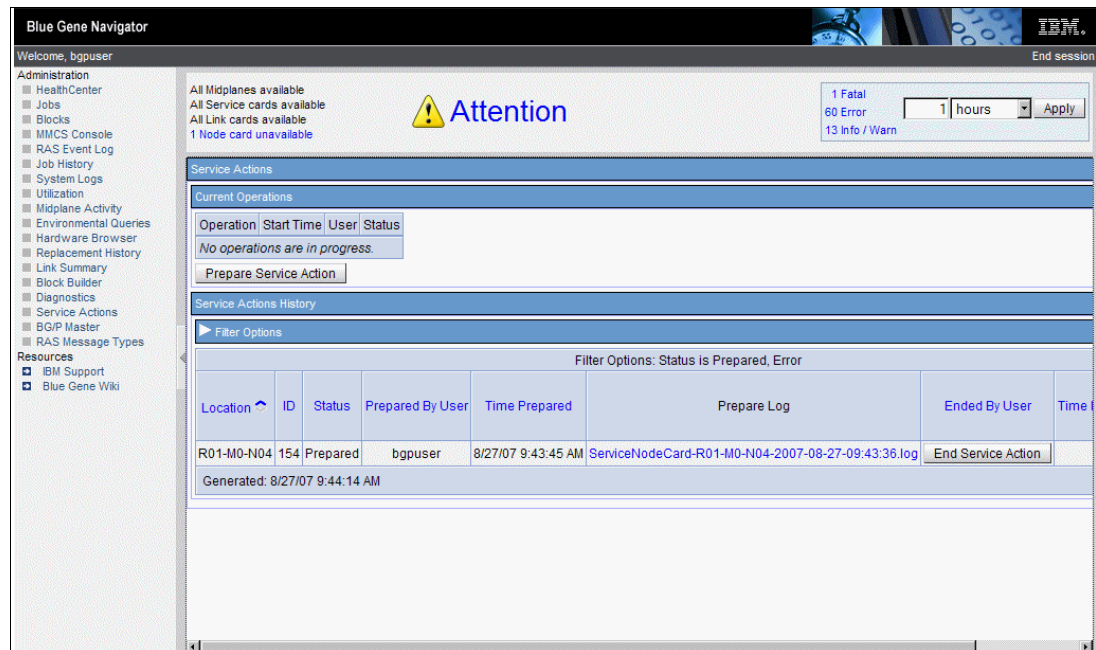

Figure 9-8 Service Action ready
5. When the specified hardware is ready for service, you see the Service Action window change to the one shown in Figure 9-8. Note the status, in this case *Prepared*, which indicates that the prepare Service Action was successful. It is important to verify the status prior to performing any service on the system. For example, if the status is *Error*, the power might not have been properly terminated, and removing hardware at this point could be hazardous not only to the hardware itself, but also to the service personnel.
While the Service Action is open, you see the page shown in Figure 9-8. To return the hardware to a usable state, click the corresponding **End Service Action** button for the Service Action that you want to complete. You are prompted to verify the action. Click **OK**.